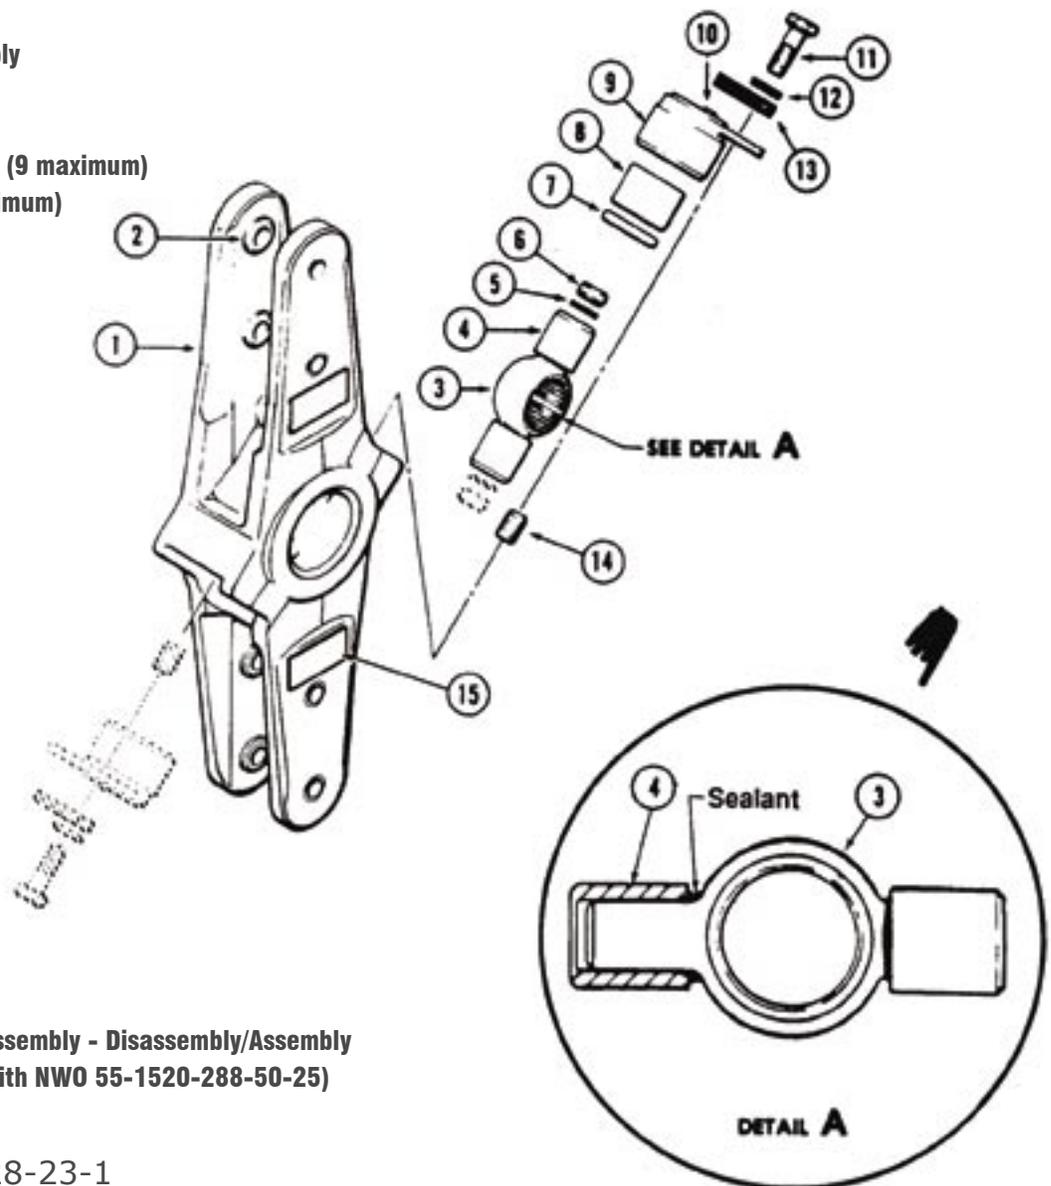

Figure 5-74. Hub Assembly - Disassembly/Assembly
Part of the problem stems from the insert being recessed in the yoke approximately 0.125 inch. This depth is not taken into consideration when selecting the proper length bolt; see figure 5-74, item 14, on next page. To ensure at least 0.250-inch bolt thread